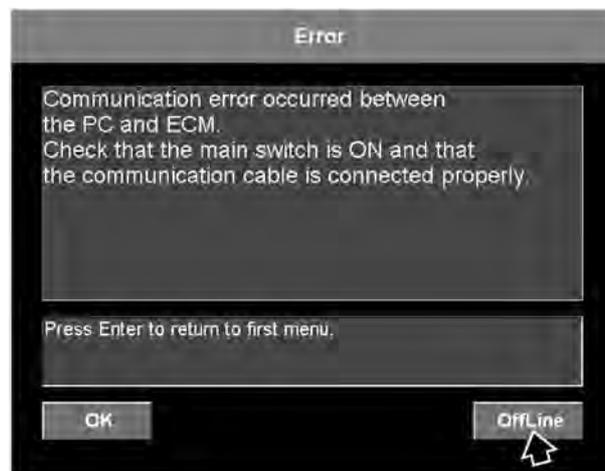

Fig. 59
2. When the "communication error" dialog appears, click the **OffLine** button. (Fig. 59)